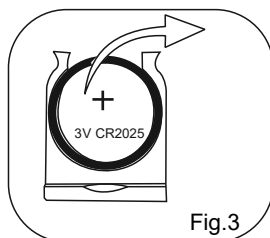

Fig.3
2. Replace the old button cell with a new CR2025 button cell with the polarity markings facing upward as Fig.3.